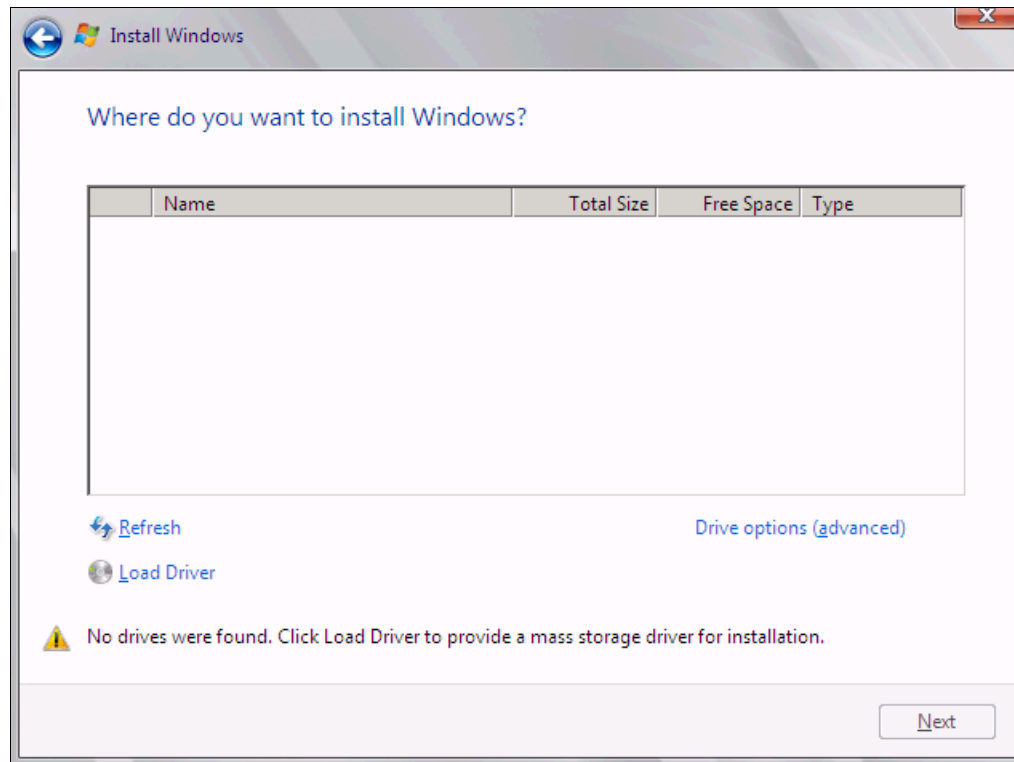

Figure 9-168 No disk shown
- 12.If no disks are displayed (Figure 9-168), insert the media that contains the drivers. The media can be in the form of a USB key, CD, or DVD, on a remotely mounted ISO. Then click **Load Driver** to load a driver for your storage device (QLogic card).